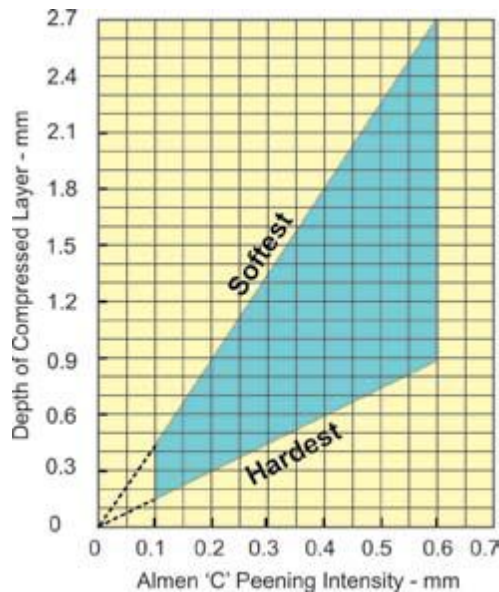

Fig. 6. Guideline Diagram for Conversion of Almen 'C' intensity to Depth of Compressed Layer.
- (2) A specified range of 0.30-0.45 mm Almen 'C' intensity means that we multiply the minimum 0.30 mm by three (to give 0.90 mm) and then divide by 20 (to get 5%) giving 0.045mm. Using fig.6 indicates that the compressed layer depth (for hardest material) would be about 0.45mm. Removing 0.045 mm from 0.45 mm is 10%.
- (4) A specified range of 0.30-0.45 mm Almen 'C' intensity means that we multiply the minimum 0.30 mm by three (to give 0.90 mm) and then divide by 10 (to get 10%) giving 0.090mm. Using fig.6 indicates that the compressed layer depth (for material of average hardness) would be about 0.90 mm at 0.30 mm Almen 'C' intensity. Removing 0.090 mm from 0.45 mm is, yet again, 10%.